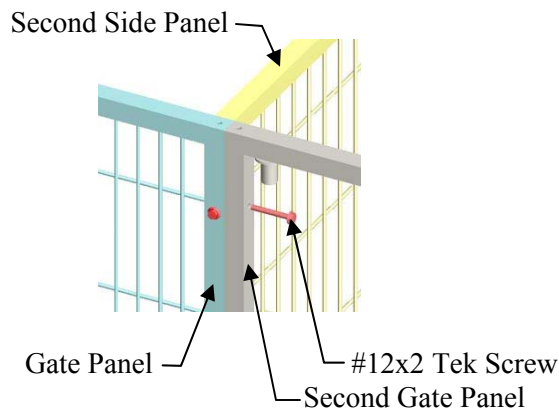
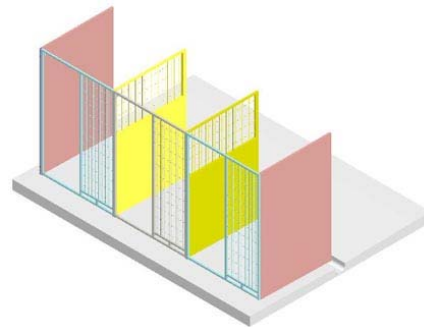

Figure 8
Figure 8A
4. Locate the second Gate Panel and attach it to the first Gate Panel using 2" Self-Drilling Tek Screws through the pre-drilled holes as shown in (**Figure 8**). Assemble the rest of the Gate and Side Panels, for the first section as shown in (**Figure 8A**).